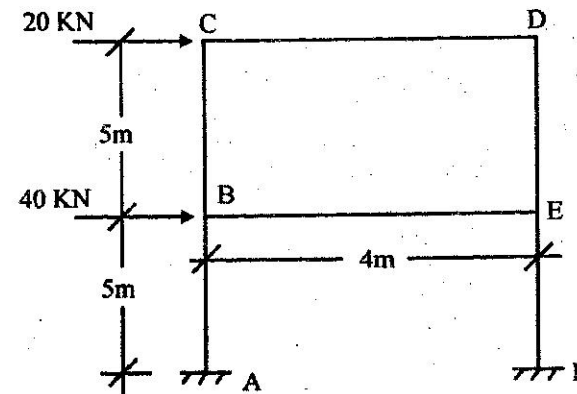

Figure-8
- (x) Analyse the portal frame subjected to horizontal loads as shown in the figure-8 below by portal method of frame analysis :